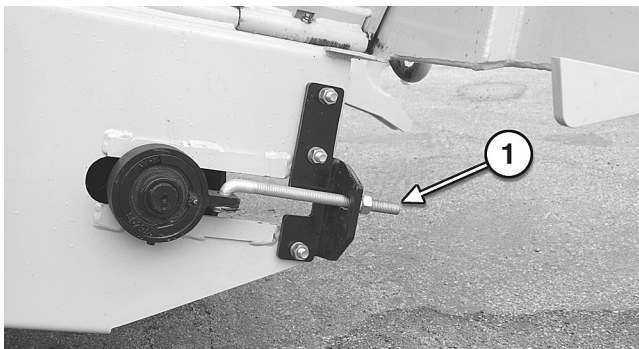
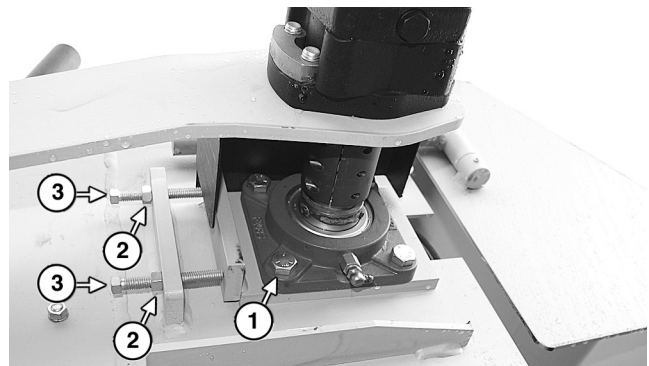

Figure 9. Conveyor Tail Pulley
Figure 10. Conveyor Head Pulley Adjustment
2. Should it be impossible to obtain centered belt operation by adjusting the tail pulley (Figure 9) it will then be necessary to adjust the head pulley as outlined on next page. (Figure 10)